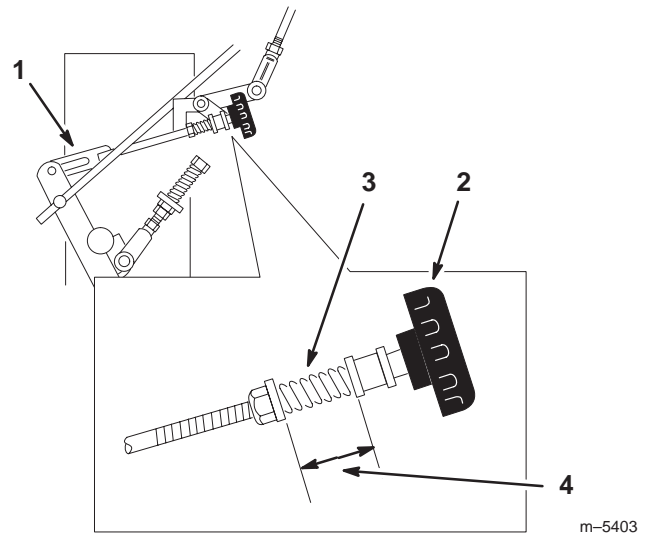

Figure 53
4. Adjust the right side linkage by turning the quick track knob counterclockwise until the tire begins to rotate forward (Fig. 53).
5. Turn the knob clockwise 1/4 of a turn at a time. Then move the speed control forward and back to neutral. Repeat this until right wheel stops rotating forward (Fig. 53).
6. The spring that keeps tension on the knob should normally not need adjustment. However if an adjustment is needed, adjust the length of spring to 1 in. (26 mm) between the washers (Fig. 53).
7. Adjust spring length by turning nut at front of spring (Fig. 53).